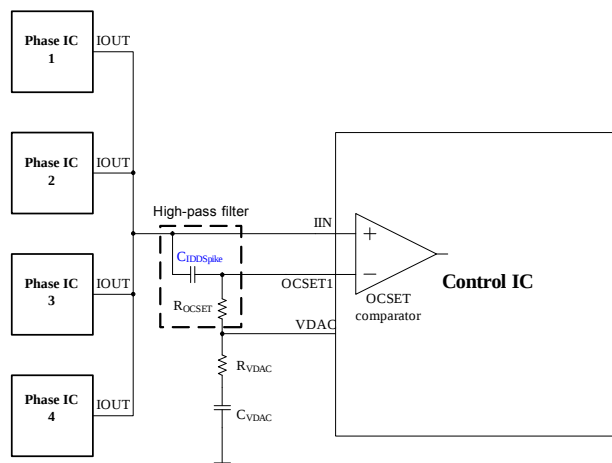

Figure 19 $C_{IDDSpike}$ and R_{OCSET} form a High Pass Filter
The IDD_Spike over current threshold can be implemented by incorporation a properly sized capacitor between the OCSET (18) and the IN1 (21) pins (see Figure 19).